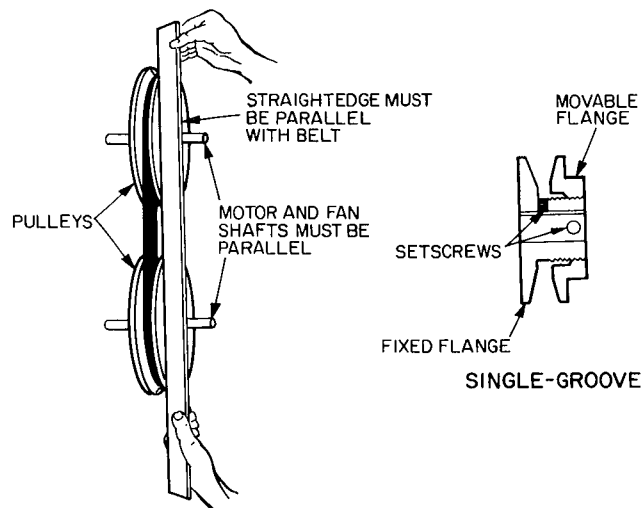

Fig. 23 – Evaporator-Fan Pulley Adjustment
3. Loosen movable pulley flange setscrew (see Fig. 23).